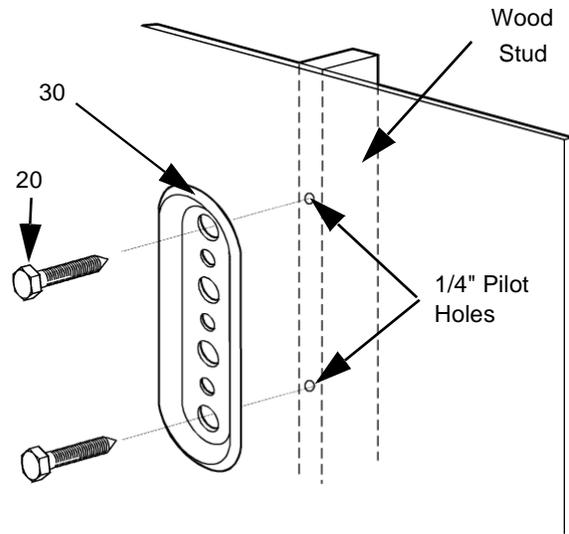

Figure 2: Secure Wall Bracket
2. Using the wall bracket (30) as a template, mark the two pilot holes for mounting the wall bracket. (see Figure 2)